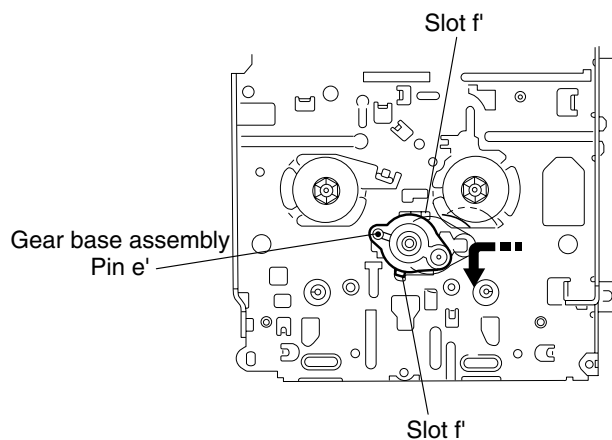

Fig.34
■ Removing the gear base assembly / take up gear / reflector gear (See Fig.34 to 36)